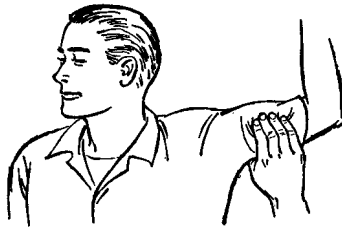

FIGURE 2. Finger Pressure on Brachial Artery.
- (1) If an arm or leg is involved and direct pressure must be delayed or is not entirely effective, apply digital pressure at pressure points (Figures 2 and 3).